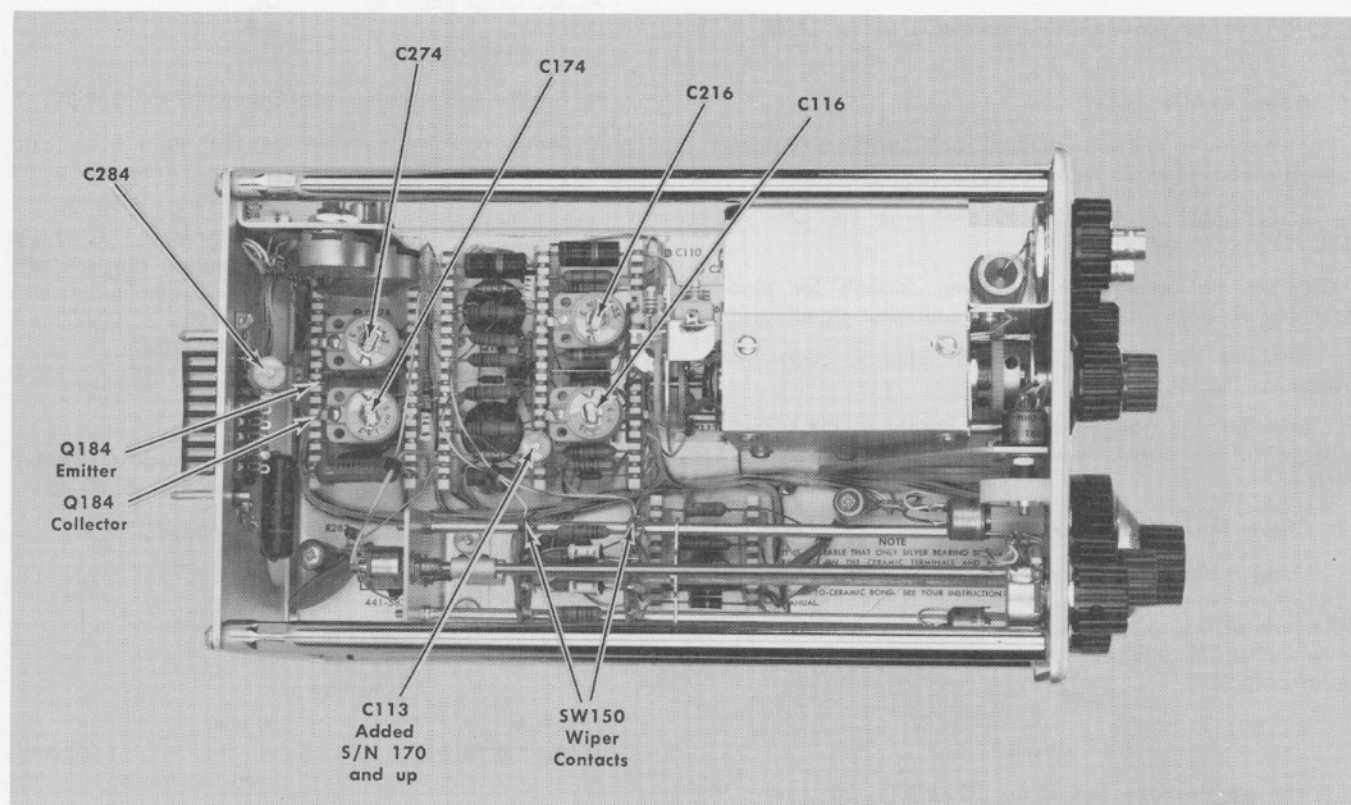

Fig. 5-2. Location of the calibration adjustments and test points (bottom view). Securing rod removed for the illustration.
- a. Connect a short jumper clip lead from one wiper contact of SW150 (MILLIVOLTS/CM switch) to the other (see Fig. 5-2).
- a. Connect a VOM between the emitter and collector leads of Q184 (see Fig. 5-2).
e. Set the oscilloscope Time/Cm switch to $0.2 \mu\text{Sec}/\text{Cm}$. Position the display so the waveform starts at a point one cm from the left edge of the graticule as illustrated in Fig. 5-3a. Check overdrive recovery by observing that the waveform level returns to within 10 mv of its original level in a time duration of $0.3 \mu\text{sec}$ (see Fig. 5-3a). If overdrive recovery is greater than 10 mv, set the oscilloscope Time/Cm switch to $2 \mu\text{Sec}$ and adjust C116 (see Fig. 5-2) for best flat top (see Fig. 5-3b). The front corner portion of the flat top should be equal amplitude above and below the trailing edge. To check on the accuracy of the adjustment, repeat the first portion of this step (e) to recheck overdrive recovery time.
steps 14-c through 14-h with these exceptions: Use —Int triggering. When performing step 14-e, check overdrive recovery on the inverted waveform. If the waveform does not return to within 10 mv of its original level within 0.3 μ sec, adjust C216 (see Fig. 5-2) to obtain the proper display.
m. Check that the DISPLAY switch is set to A-B. Adjust the oscilloscope Triggering Level control, if necessary, to obtain a stable display. Using the W Unit POSITION control, position the display near graticule center. If the display is more than one cm in amplitude for W Units S/N 170 and up, adjust C113 (see Fig. 5-2) so the display is one cm or less in amplitude as shown in Fig. 5-3d. After adjusting C113 and the display is more than one cm, readjust C116 and C216 slightly to reduce the amplitude to the proper amount. In amplitude of one cm or less is a common-mode rejection ratio of 20,000-to-1 or better. If C116 and C216 are readjusted, repeat this entire step (14-a through 14-m).